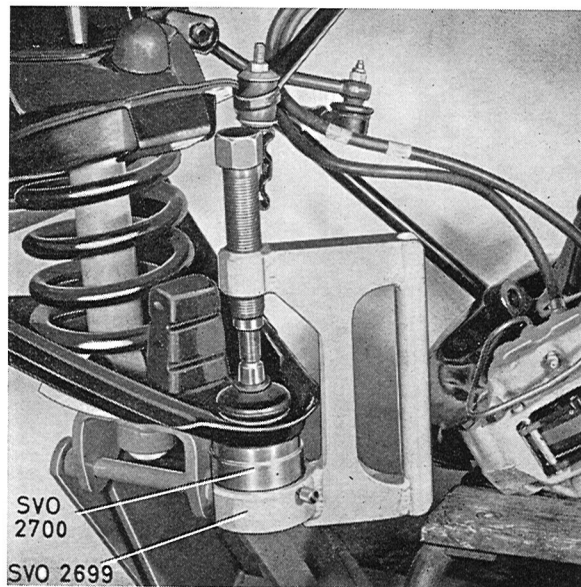

Fig. 6-31. Removing lower ball joint
1. Press the ball joint out of the lower control arm with press tool 2699 and sleeve 2700, see Fig. 6-31.